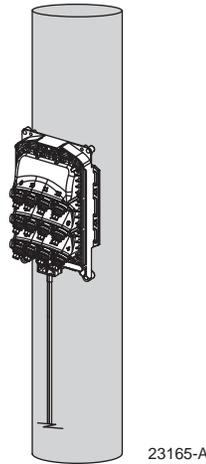

Figure 8. Pole-Mount Installation
- **Pole-Mounting** (aerial) – The MST may be mounted on a utility pole as shown in Figure 8. The UMB may be attached to the pole with lag screws or construction screws. Other than the fasteners, no additional parts are required for pole mounting.